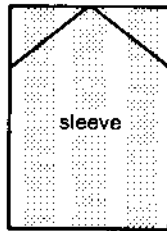

FIGURE 3
- To cut the tops of the sleeves to a point: Make a mark 8" down from the top edge on each side. Then mark the top center of the fabric. Fold on the lines from the center point to the side points. See Fig. 3. Mark the fold lines. Allow ½" (1.3 cm) seam, stay-stitch and then cut.